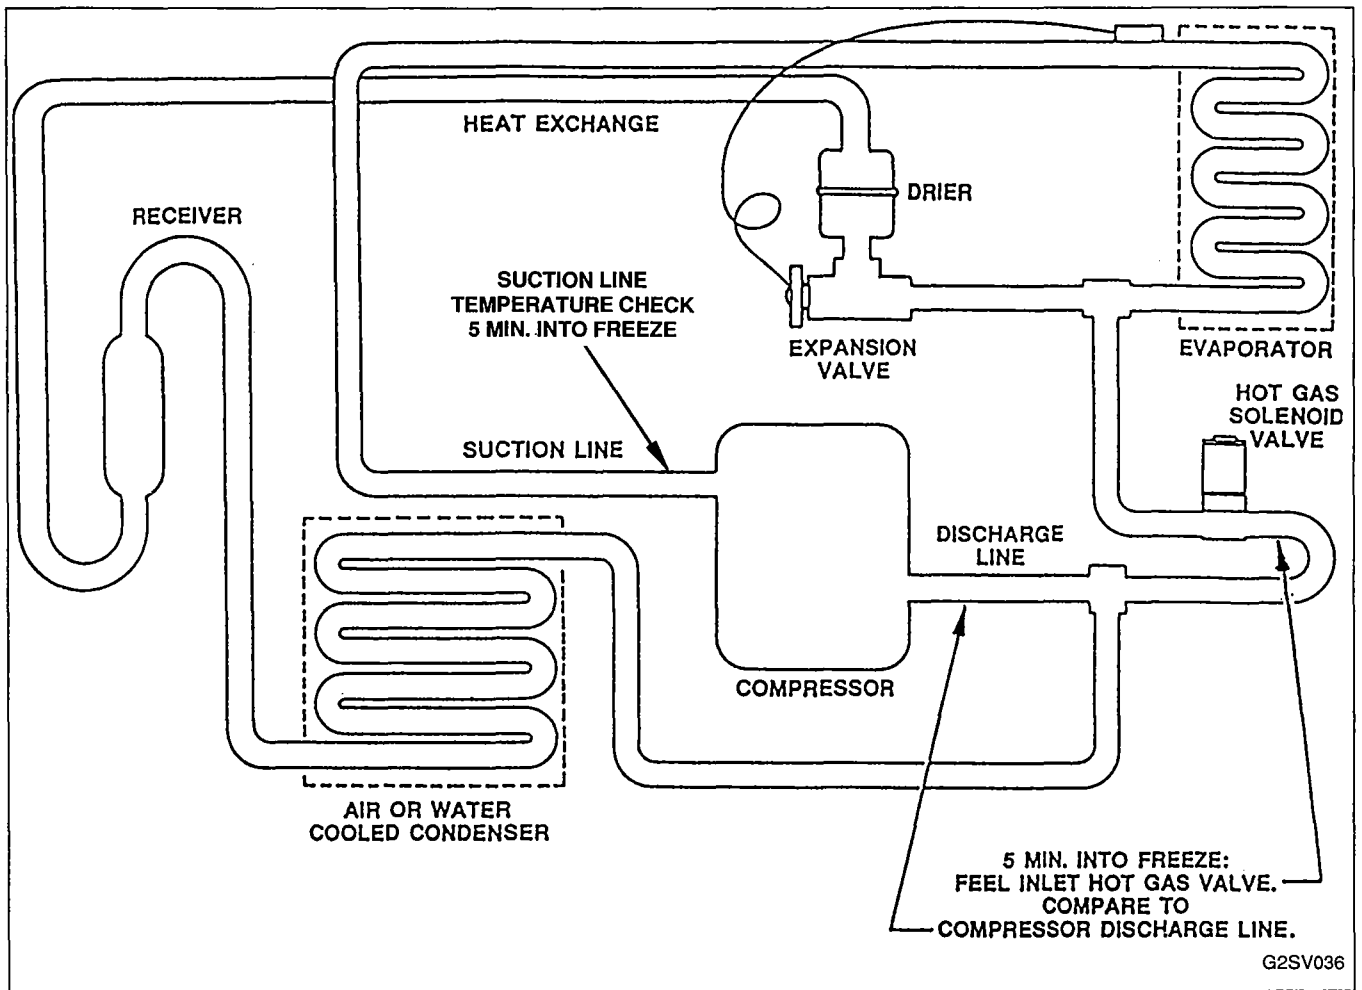

FIGURE 36. HOT GAS VALVE INLET FEEL CHECK/SUCTION LINE TEMPERATURE CHECK
- 1) Feel **hot gas valve inlet**, Figure 36, page 43, after 5 minutes into freeze cycle.
Suction Line Temperature Check (Figure 36, page 43).